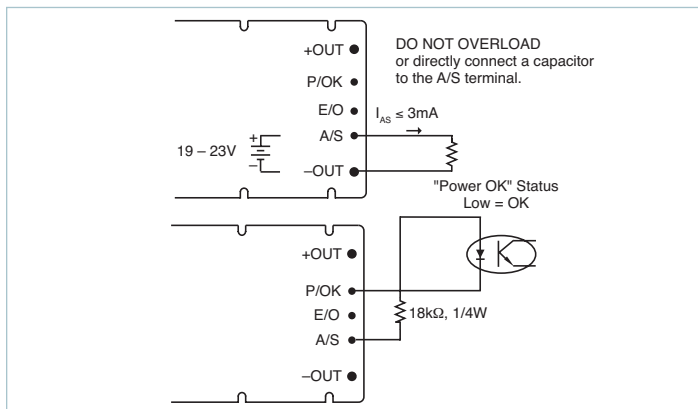

Figure 10.6 — Auxiliary supply (A/S)
**Auxiliary Supply (A/S) Pin:** The HAM provides a low voltage non isolated output Auxiliary Supply (A/S) that may be used to power primary side control and monitoring circuitry. This output is 19 – 23VDC, referenced to –OUT, at 3mA max. Do not overload or short this output as the HAM will fail. A typical use for A/S is to power an optical coupler that isolates the Power OK signal (Figure 10.6).